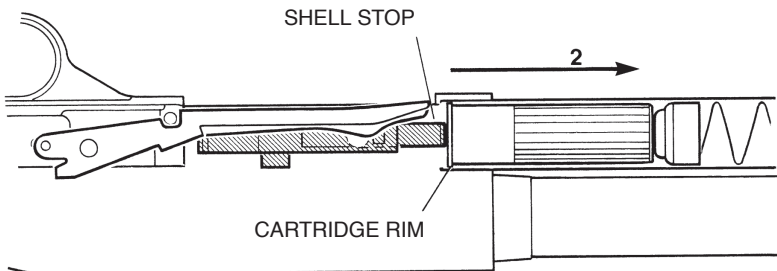

Figure 7
2. Continue carefully pushing the cartridge into the magazine tube until the rim of the cartridge is past the shell stop (Figure 7). The shell stop will “snap” over the rim of the cartridge. Repeat this sequence to load each additional cartridge.